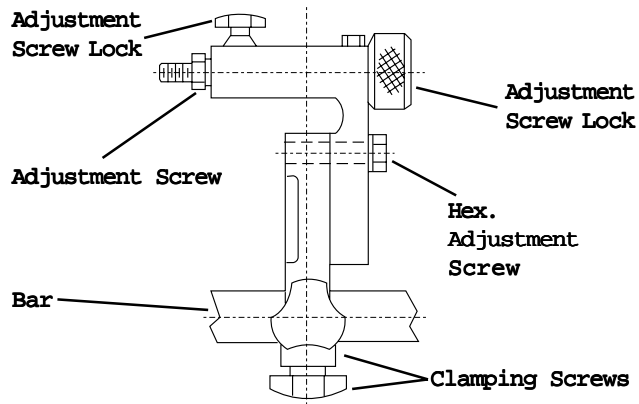

FIGURE 2
- A. Secure "PH20" to threaded extension of adjustment screw of Mounting Bracket (See Figs. 2 & 3).